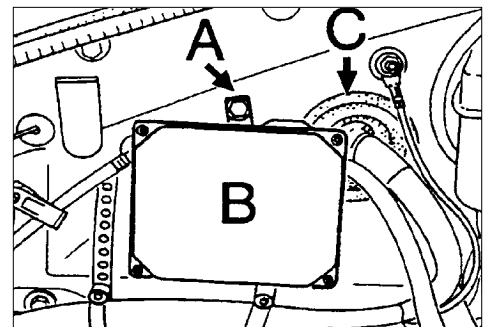

Figure 5
3.5 - Slide the control units into the plastic brackets and secure with the screw on top (Figure 5, Position A).
3.6 - Install "Caution High Voltage" labels onto the control units (Figure 5, Position B).
4.2 - Route the adapter cables from the luggage compartment through the rubber seal (Figure 5, Position C) to the wheel housing and to the electrical connector of the headlight.